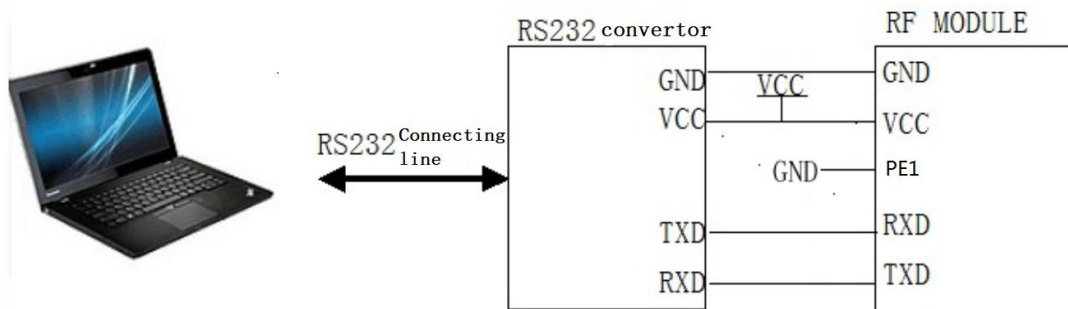

Figure 9.1 Wireless module and computer connection diagram (TTL)
- 2、 Switch the computer serial port to the corresponding level and then connect the module,as shown in figure 9.1.